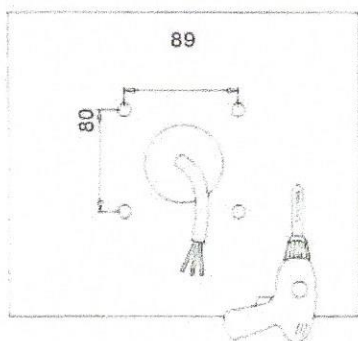

Figure 1
- 1.Cut holes on the wall according to locating plate. (Figure 1)